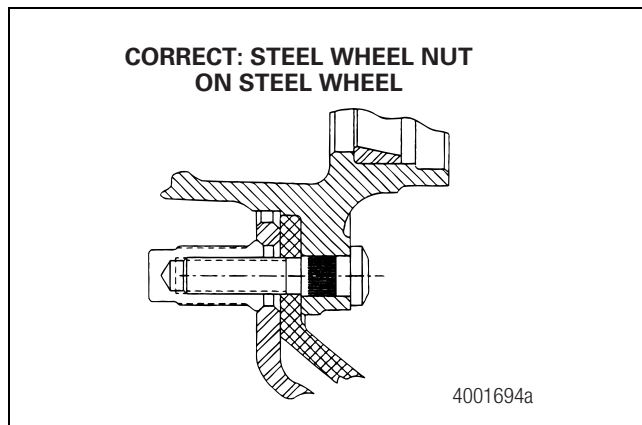
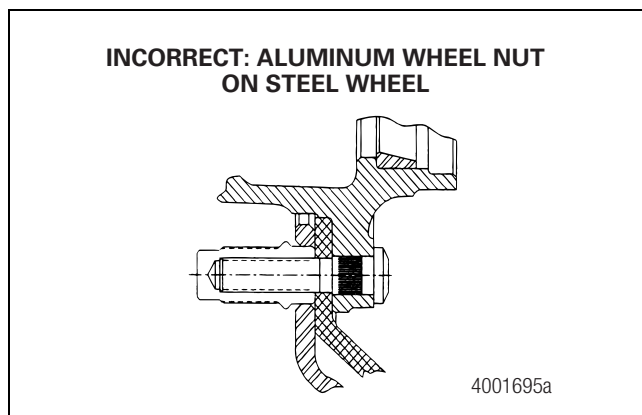

Figure 13.41
Figure 13.42
7. Install steel wheel nuts onto steel wheels. Do not install aluminum wheel nuts. The extension of the aluminum wheel nut can bottom against the hub flange or brake drum before the disc is clamped correctly. Figure 13.41 and Figure 13.42.